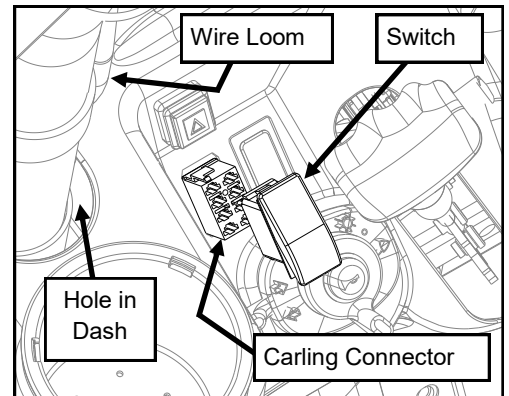

Fig. 2.3A
- 2.3 Open vehicle hood. From under the hood, route the Carling 8-pin connector (on provided wiring harness) through the rectangular cut-out in the vehicle dashboard. Plug the Carling connector into the back of the switch. Snap switch into dashboard. (See Figure 2.3A).
- 2.5 Route long section of harness up through the hole in the dash at the driver's side front ROPS tube (See Figure 2.3A).
- 2.4 Feed the short section of harness down through the hole in the dash at the driver's side front ROPS tube (See Figure 2.3A on previous page) and connect to the fuse block. See switch panel installation instructions for proper wiring locations.